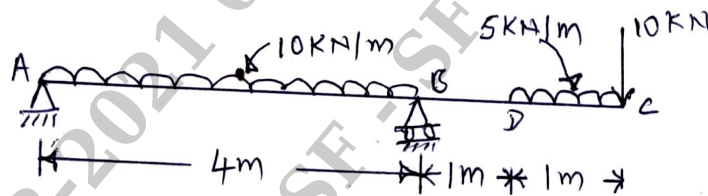

Fig.Q.5(b)
- b. For the beam shown in Fig.Q.5(b) draw SFD and BMD, show the salient values on the figure. Locate the point of contra flexure if any. **(14 Marks)**